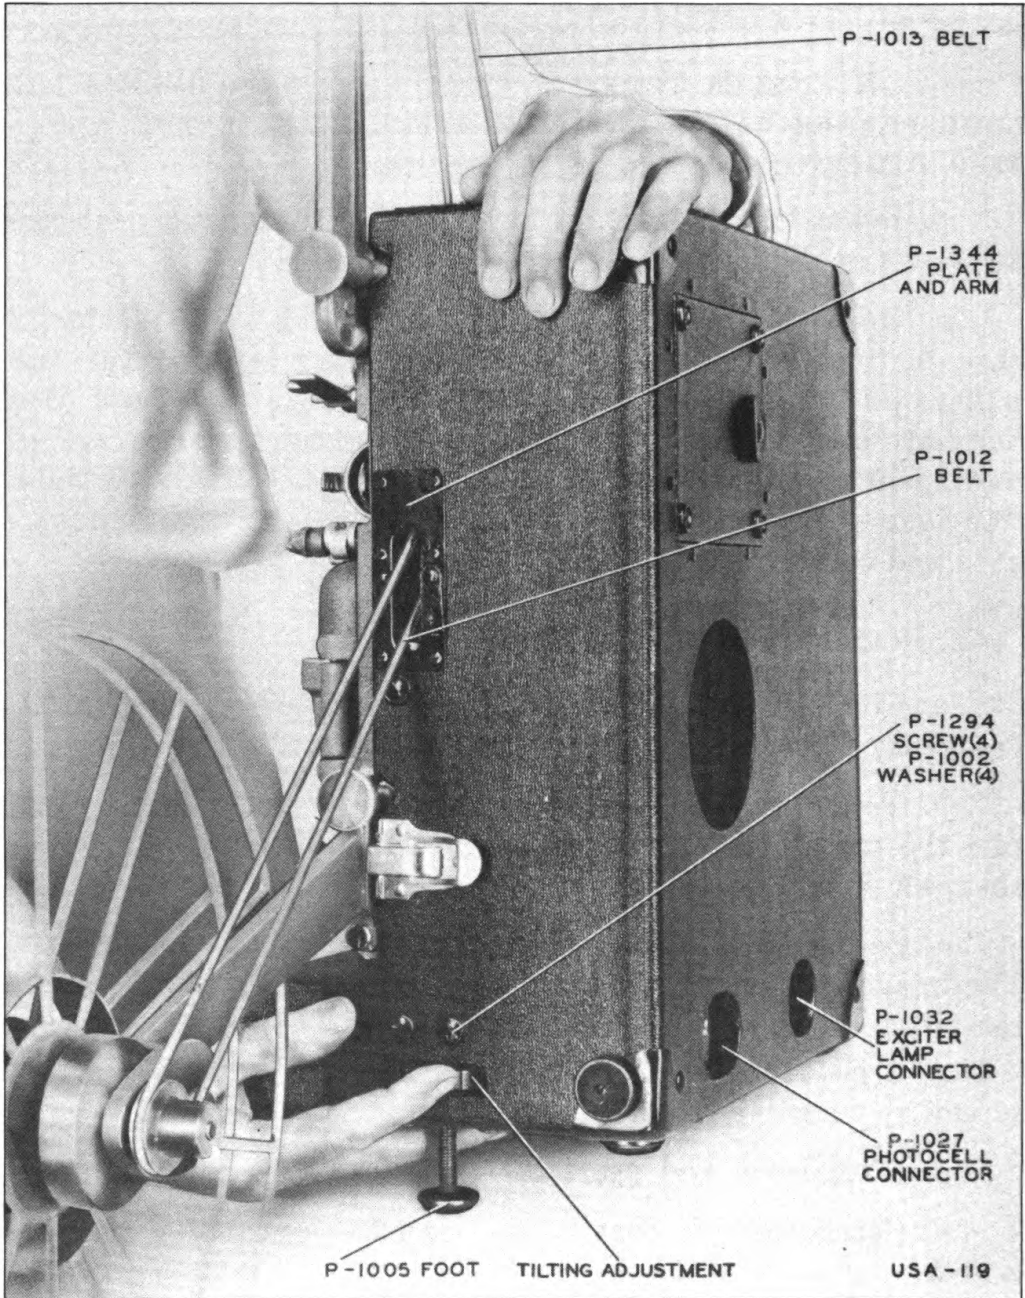

Figure 6—Projector—Tilting Adjustment
c. Center the image of the picture aperture on the screen. The image is moved vertically by adjusting the movable foot on the front of the projector as shown in Figure 6.